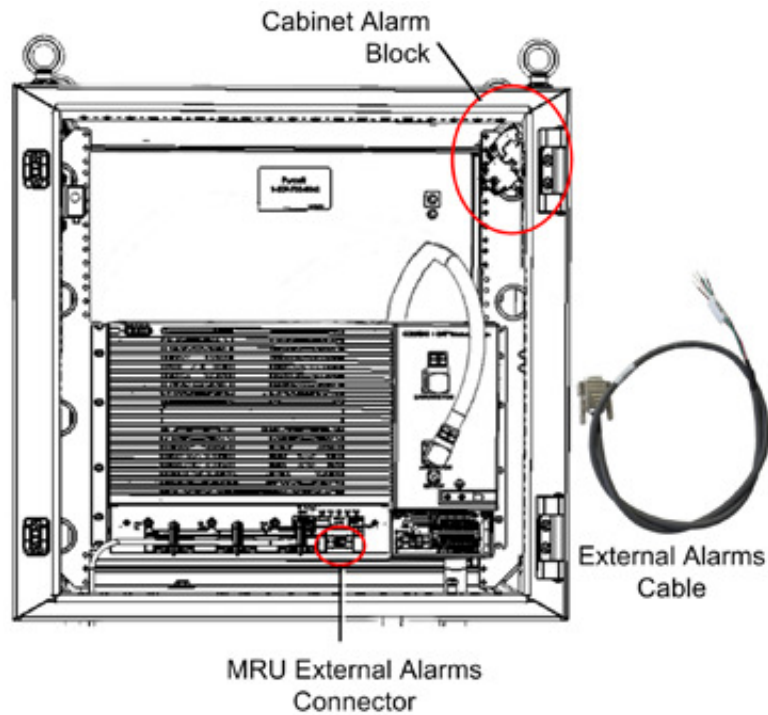

Figure 6-21. Location of External Alarms Connector and Cabinet Alarms Block
- 2. Route the cable alarm wires to the alarm block, located on the upper right corner of the cabinet. See Figure 6-21.